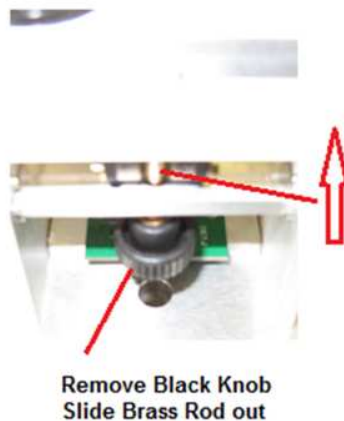

Figure 5
4. Remove the Black Knob from the bottom of the Clamp Rod, Figure 5, and place (with its copper washer) to one side. Loosen, but do not remove, the Nylon Locking screw. Slide the Brass Knob Rod out from the top of the Frame and put to one side. It is important to also remove the plastic washer that sat under the top of the Brass Knob and keep it with the rest of the Travel Clamp components. If the washer is not removed erroneous results will be generated.